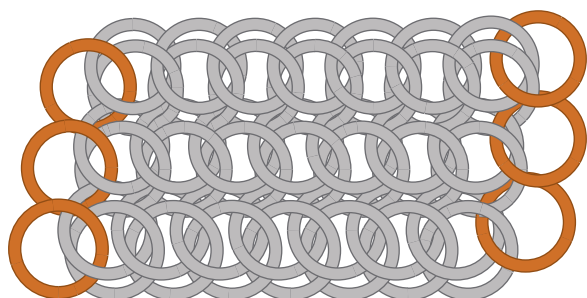
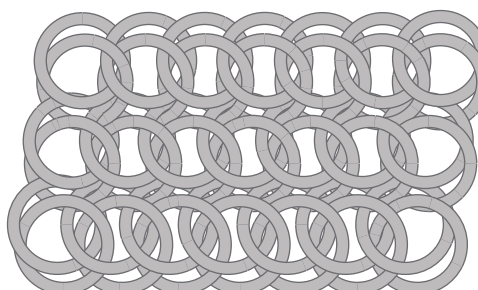

FIG. 13
FIG. 14
## 11. Repeat Steps 4 through 10 once more to make a 3-row sheet (FIG. 13).
13. Remove the single jump rings on the edges of the weave (as shown in FIG. 13) to even the weave (FIG. 14).